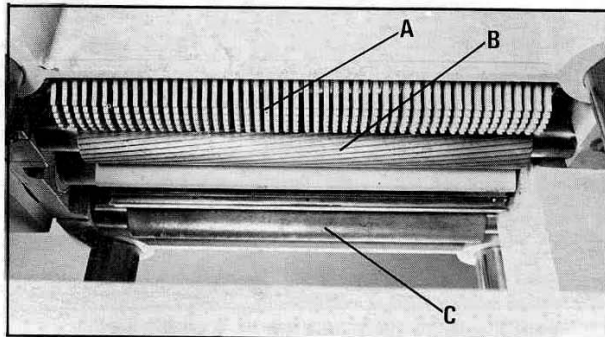

Fig. 42
Anti-kickback fingers (A) Fig. 42, are provided on your planer to prevent kickback. These fingers operate by gravity and it is necessary to inspect them occasionally to make sure they are free of gum and pitch so that they move independently and operate correctly.
Your machine is equipped with a spiral, serrated infeed roll (B) and a solid steel outfeed roll (C) Fig. 42.